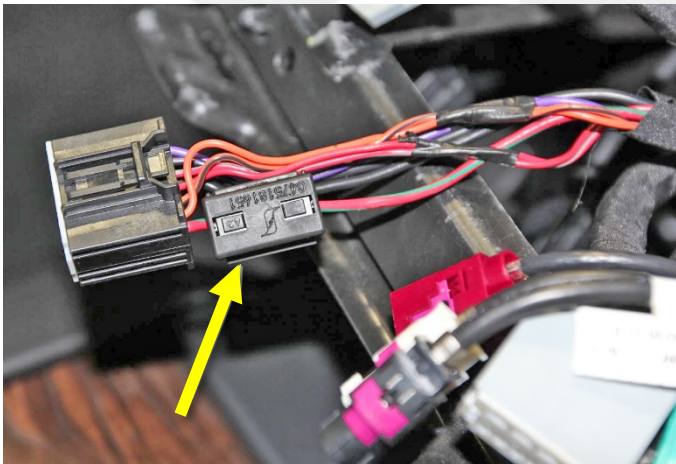

Figure 5
6. Position the first ferrite on the pin 7 wire as close to the connector as possible and then install the second ferrite as close as possible to the first ferrite (Figures 5 and 6).